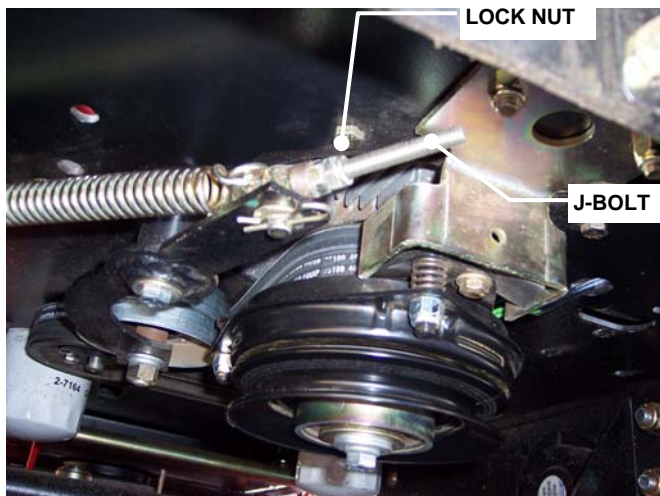

FIGURE 5.9
2. Turn lock nut out to the end of J-Bolt, reducing spring tension. Unhook traction idler spring from bolt in frame. See Figure 5.9